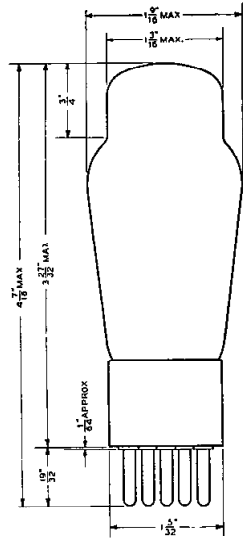

FIG. 1
**Dimensions**—The dimensions and outline diagrams are given in Figures 1 and 2. The overall dimensions are: